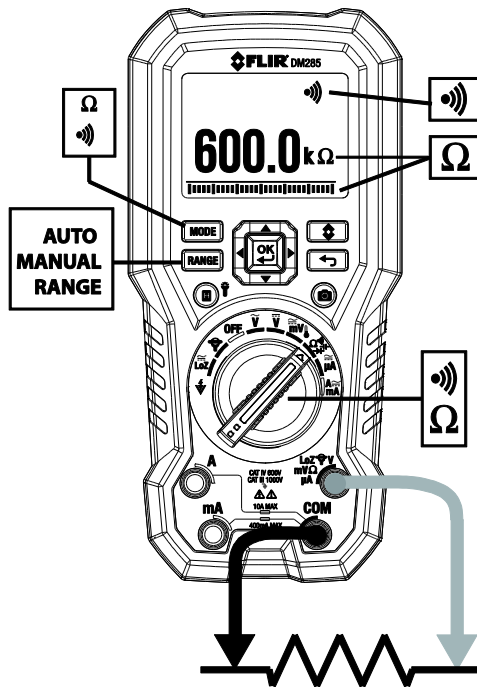

Fig. 9-3 Resistance and Continuity Measurements
1. Refer to Fig. 9-3. Set the function switch to the  position.
1. Refer to **Fig. 9-3**. Set the function switch to the Ω with beeper icon position.